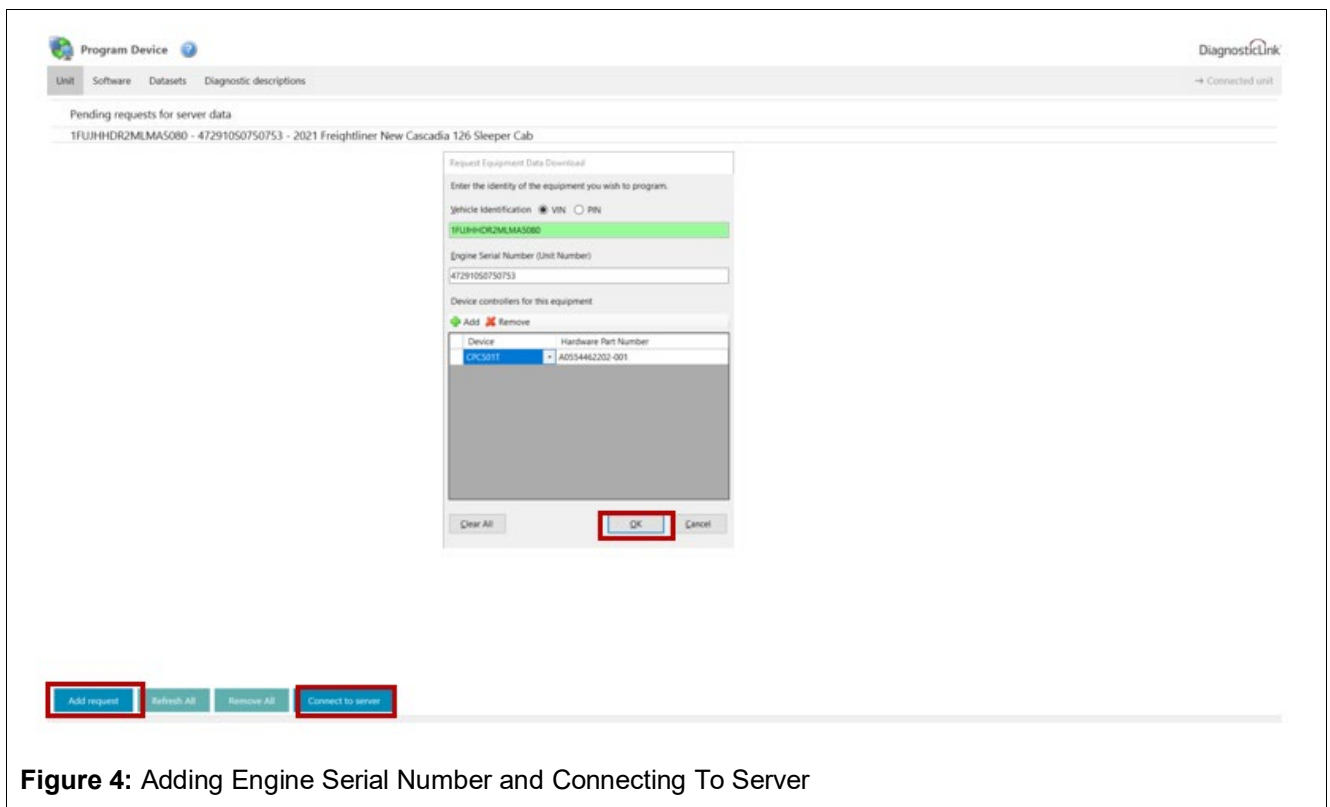

Figure 4: Adding Engine Serial Number and Connecting To Server
38. Select the 'Add' button in the lower left corner of the DiagnosticLink® screen and enter the engine serial number. Then click the 'Connect to Server' button in the bottom left corner of the DiagnosticLink® screen to download. Select 'Connected unit,' then select 'Next.' See **Figures 4, 5 and 6**.